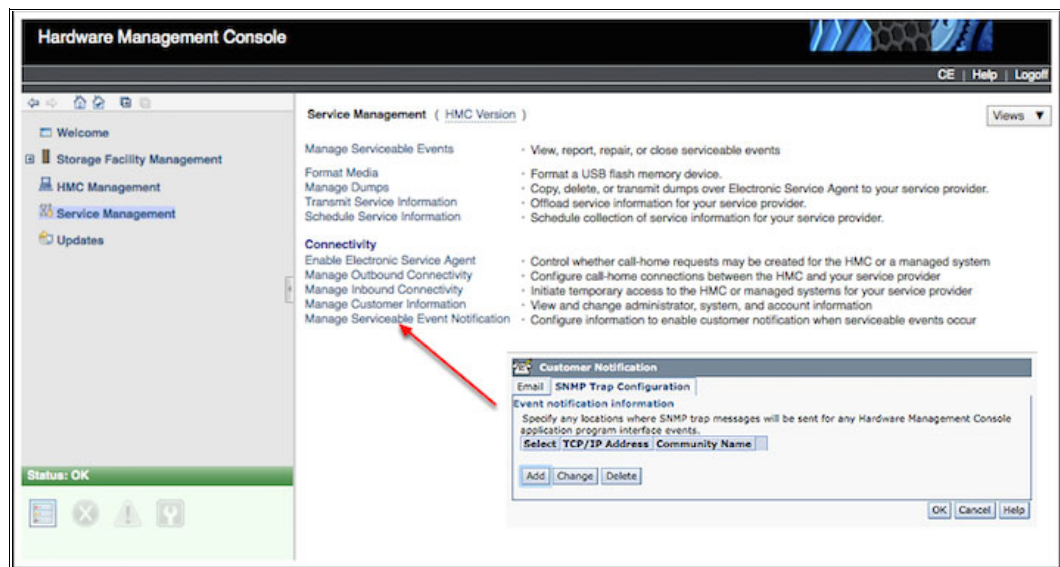

Figure 14-2 HMC Manage Serviceable Event Notification
2. Select **Manage Serviceable Event Notification**, as shown in Figure 14-2, and enter the TCP/IP information of the SNMP server in the SNMP Trap Configuration folder.